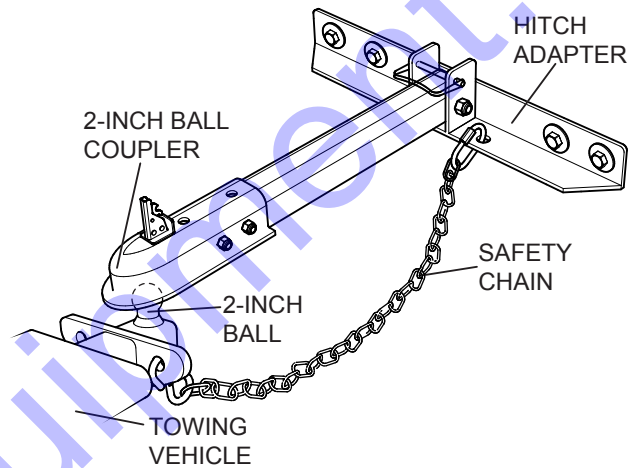

Figure 4. Connection to the Towing Vehicle
3. Attach the hitch adapter to the towing vehicle as shown in Figure 4. Be sure the coupler is all the way on the hitch ball and the locking mechanism is engaged.
4. Attach the safety chain (see Figure 4).